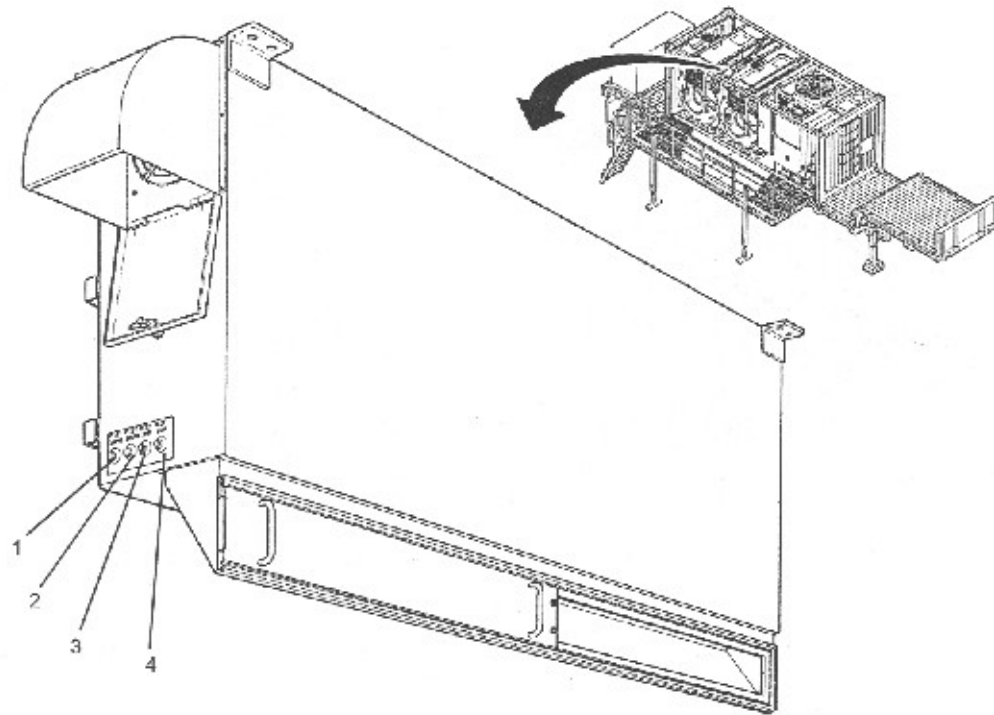

Figure 3-34
- c. **INVERTER ENCLOSURE CONTROLS** shows the controls found on the inverter enclosure. Below describes the use of these controls. (See Figure 3-34)